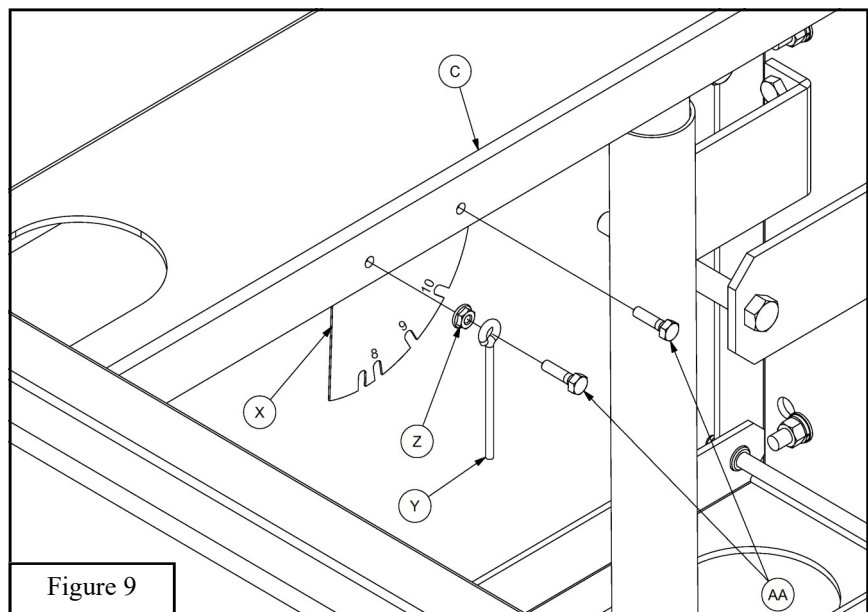

Figure 9
12. Attach *Height Gauge (X)* to the top *Extension Channel (C)* with one $1/4"$ x $1"$ *Hex Bolt (AA)* and $1/4"$ *Flange Nut (Z)* in the back mounting hole. Slide the *Pointer (Y)* onto one $1/4"$ x $1"$ *Hex Bolt (AA)* then install one $1/4"$ *Flange Nut (Z)* against the *Pointer (Y)* with just enough slack to let the *Pointer (Y)* rotate freely on the $1/4"$ x $1"$ *Hex Bolt (AA)*. Pass this assembly through the mounting holes in the *Extension Channel (C)* and tighten with the remaining $1/4"$ *Flange Nut (Z)*. You must tighten the $1/4"$ *Flange Nuts (Z)* against each other to lock this assembly in place, if you tighten the $1/4"$ x $1"$ *Hex Bolt (AA)* you will also tighten the assembly against the *Pointer (Y)*. The *Pointer (Y)* must rotate freely on the $1/4"$ x $1"$ *Hex Bolt (AA)* once installed to accurately indicate your rim height. The *Height Gauge (X)* can be adjusted by loosening the $1/4"$ x $1"$ *Hex Bolts (AA)* to align the *Pointer (Y)* with the 10' mark when *Rim (W)* measures 10' from the playing surface. See Figure 9.
13. Install the *Net (W)*.